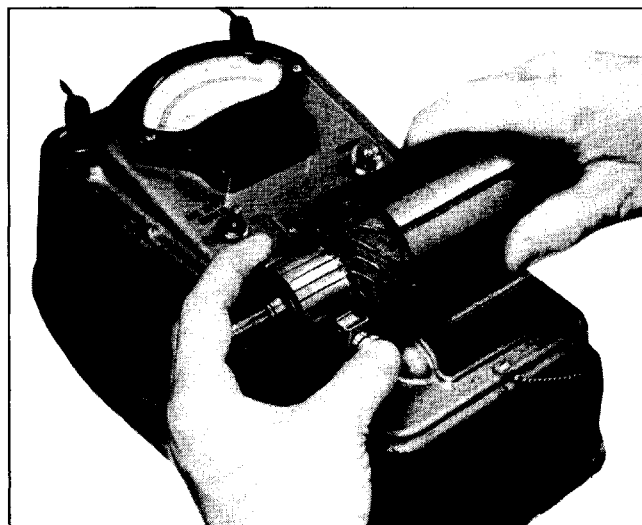

Fig. 12-16 Bar-to-Bar Test for Open Armature
b. Check armature for open circuit by making bar-to-bar check as shown in Fig. 12-16. Inconsistent variation in readings indicates an open armature.